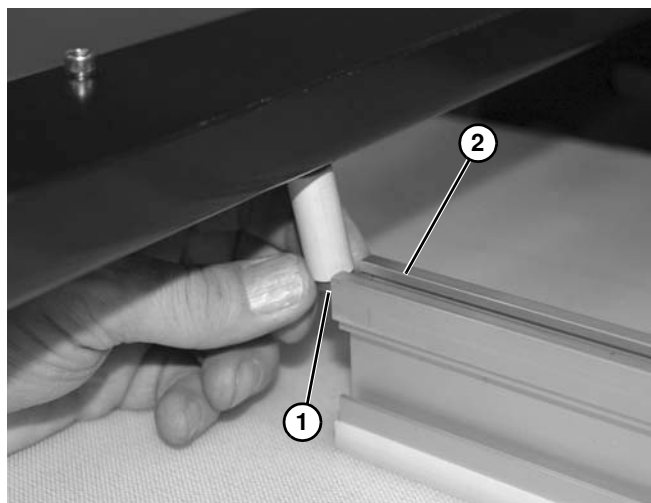

Figure 59
3. Install first weld nut (**Figure 59, item 1**) into slotted channel (**Figure 59, item 2**) of return support.